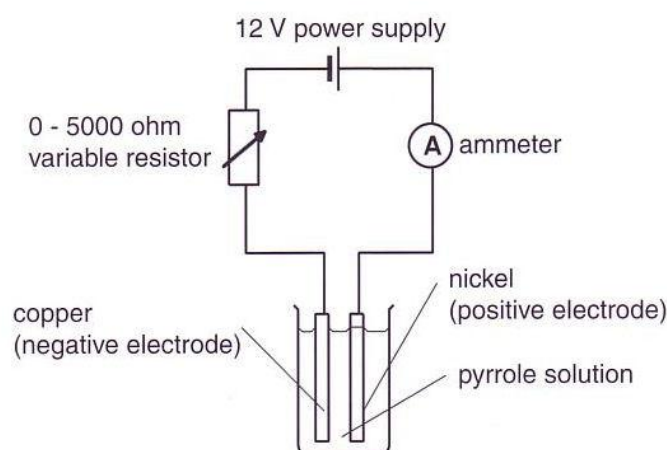

Figure 1 Setup for making polypyrrole.
- Pour the pyrrole solution into a 250 cm³ beaker and set up the circuit shown in Figure 1. Before switching the power on ensure that the variable resistor is set at its maximum resistance (usually fully clockwise).